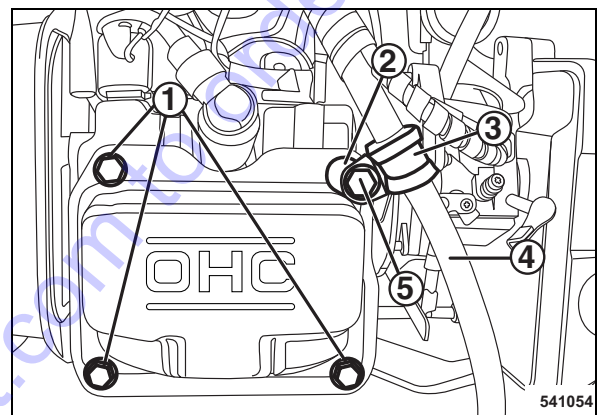

Fig. 56
- Place the cylinder head cover on the cylinder block and tighten screws (1) (Fig. 56) again.
- Fasten screw (5) with spacer (2) and clamp (3) for throttle cable guidance (4) to such an extent, that the throttle cable does not have contact with any engine parts (tightening torque 10 Nm (7.4 ft.lbs.)).